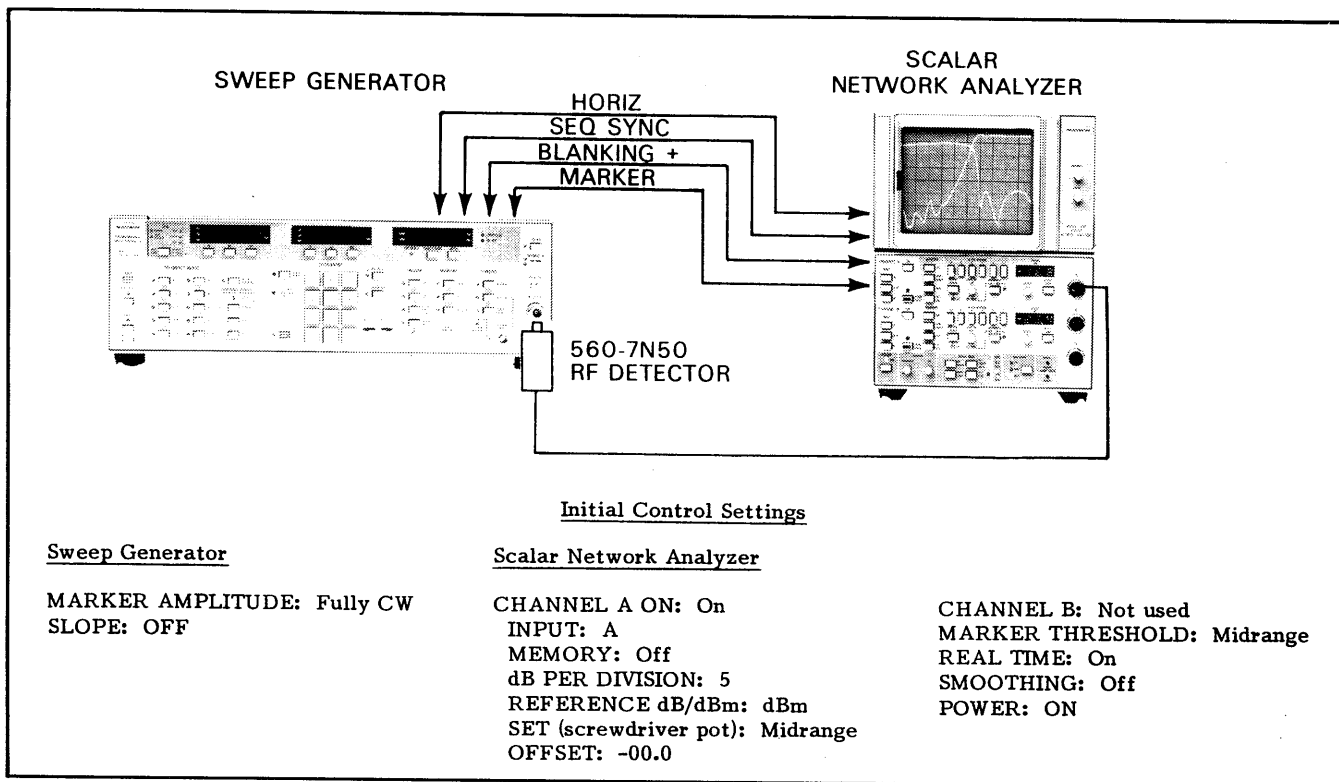

Figure 3-23. Equipment Setup for Confidence Test (except 6642A)
This paragraph provides the confidence test procedure for the sweep generator. Figure 3-23 shows the test setup and Table 3-5 gives the test procedure.
1. Connect the equipment as shown in Figure 3-23.